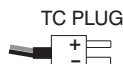

Figure 8. Connections for Outputting Thermocouples
1. Connect the thermocouple leads to the appropriate polarized TC miniplug, and insert the plug into the TC terminals on the calibrator, as shown in Figure 8.